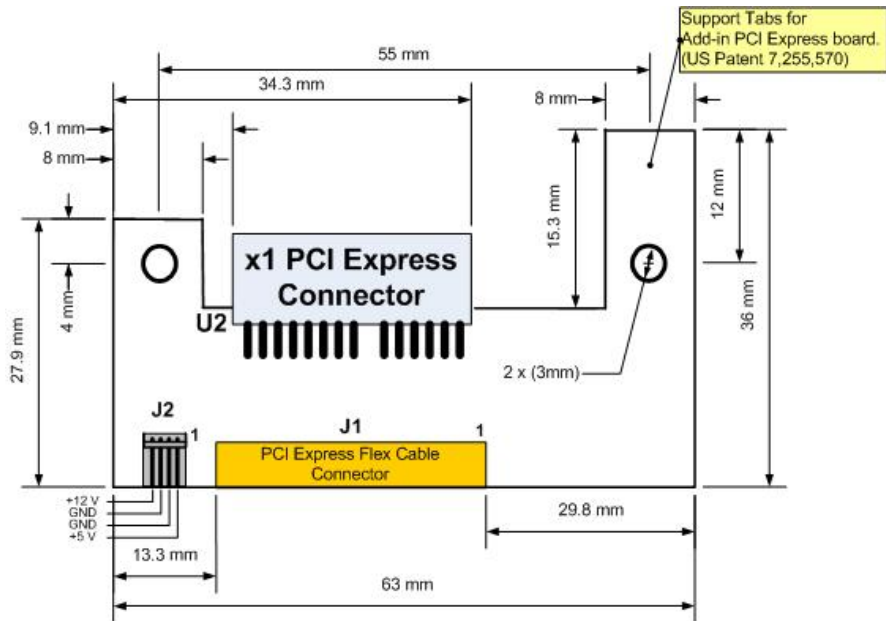

Figure 7: x1 PCI Express Adapter board layout
- From standard ATX power supply (“floppy disk” connector) (12 and 5 volts) via x1 PCI Express adapter board (see pinout on Figure 7)
- From any 12 volt power supply via x1 PCI Express Adapter board (see pinout on Figure 7)